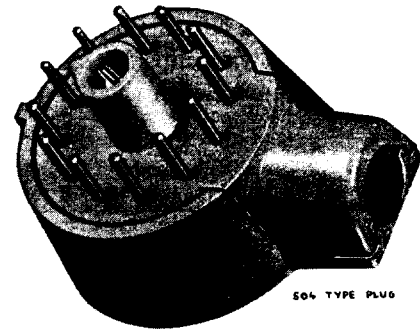

Fig. 5—504A-49 or -50 Plug
2.04 504A-49 and -50: The 504A-49 and -50 plugs (Fig. 5) consist of a block of insulating material containing twelve terminals and a removable cap. Each terminal is equipped with a spring connector which permits friction contact with the 134 or equivalent cord tips. The 504A-49 and -50 plugs are used with portable telephone sets having 2- to 12-conductor mounting cords and mates with the 541A or 547A jack, in one position only.